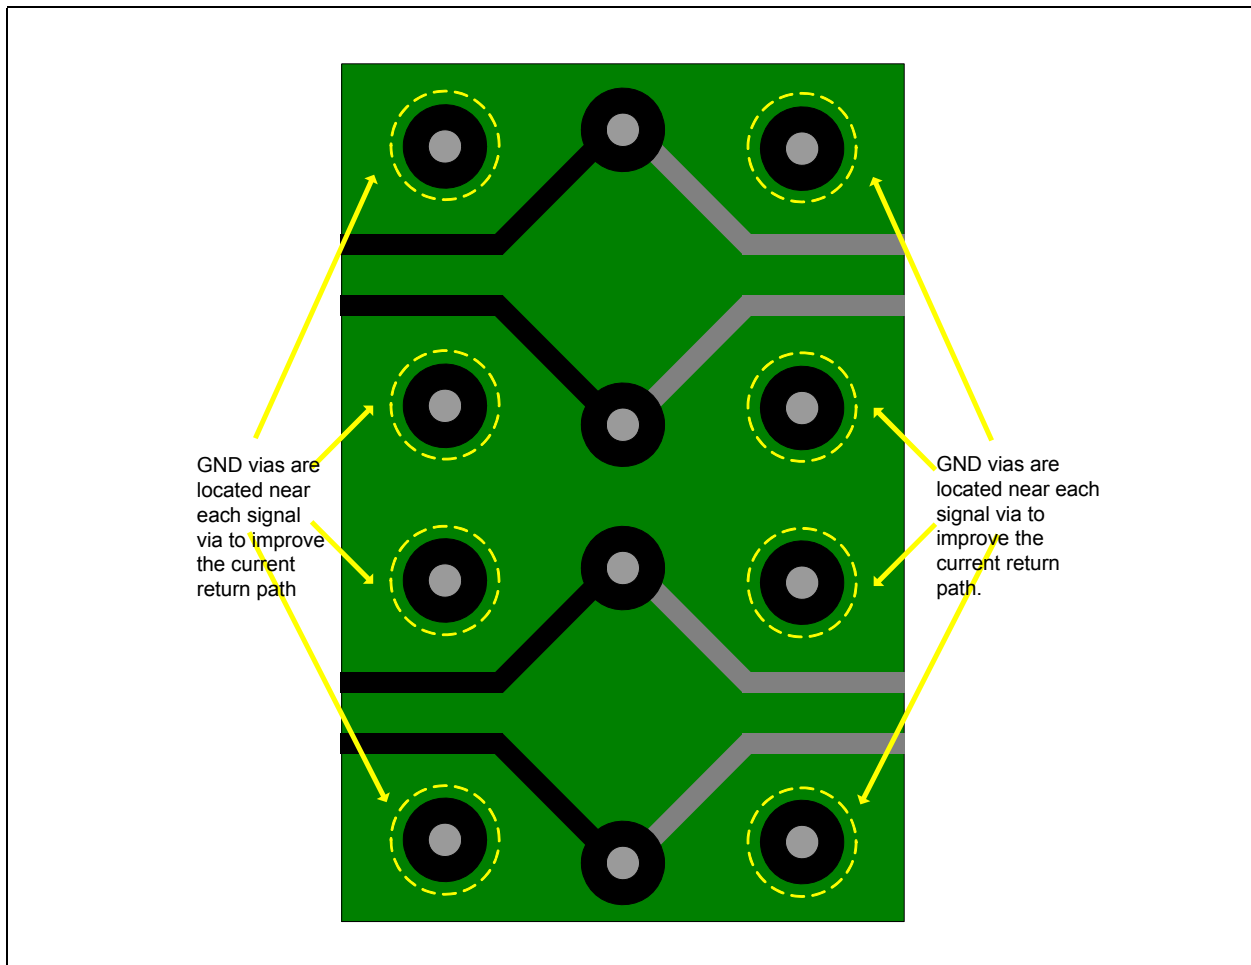

Figure 9-13 Better Ground Vias for Signal Return Paths – Two Return Path Vias Per Signal Via (Less Reflection)
- Each time differential traces make a layer transition (pass through a pair of signal vias), there must be at least one ground via located near each signal via. Two ground vias near each signal via is better. See Figure 9-12 and Figure 9-13.